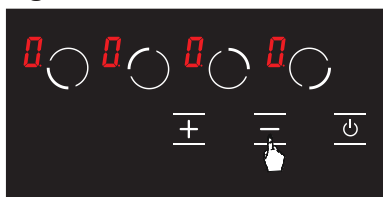

Figure 22
3. Press the — key again. (see Fig. 22) This shall be performed right after the 2nd step. Child lock is deactivated permanently. In other words, child lock shall continue to be deactivated even if the unit is turned off and on again.